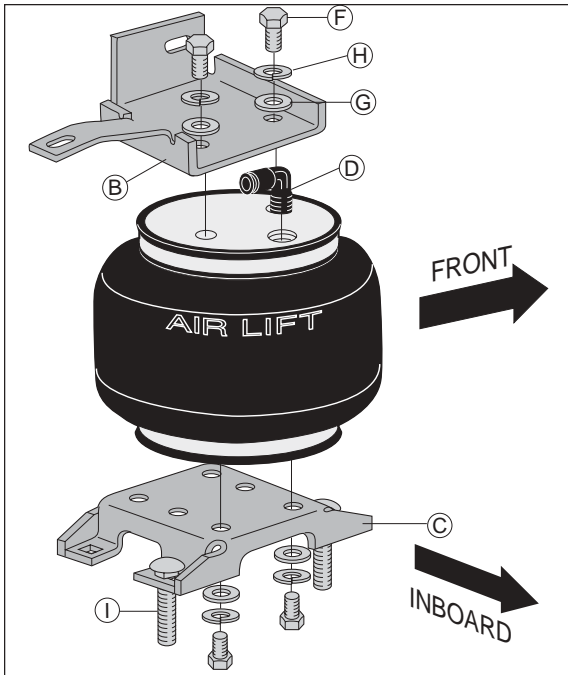

Figure 2
3. Insert two carriage bolts in the lower, inboard holes of the lower bracket before attaching the bellows (Figure 2).
4. Use the lower bracket template provided on page 7 to determine the proper mounting location for the bellows. Use the holes marked "A" for mounting. Attach the lower bracket to the air spring assembly using two bolts (F), two lock washers (H), and two flat washers (G). Torque to 20 ft-lbs.